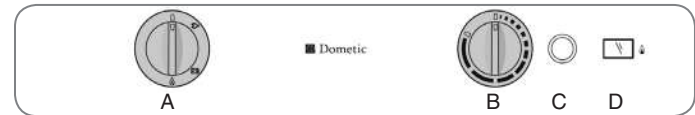

figure 4.01
1. Set the power selection switch (fig. 4.01: A) to gas.
2. Turn the thermostat regulator (fig. 4.01: B) to the right and press it in. Hold the regulator pressed in.
3. Now press the button (fig. 4.01: C) on the battery ignition and hold it in. The ignition takes place automatically.
4. The indicator on the galvanometer (fig. 4.01: D) moves to the green section when the flame is ignited. The fridge is now switched on. Hold in the knob (2) for approximately another 15 seconds and then release it.